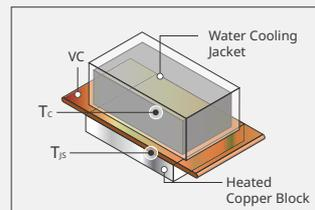
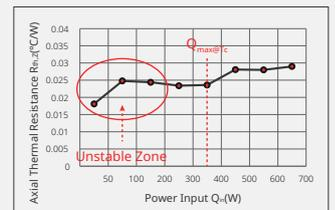

Figure 3. The schematic diagram of the water-cooling jacket VC and its heating copper block
Figure 4. Trend curve of axial thermal resistance $R_{th,Z}$ versus heating power Q_n by using the water-cooling jacket
The VC performance measurement method is based on the standard <TTMA-VC-2017> set by the Taiwan Thermal Management Association. The performance measurement of VC is to use the condensation water jacket to take away heat. The measured performance indicators of the VC at the set operating temperature T_C are the axial thermal resistance $R_{th,Z@Tc}$ of the VC, the radial thermal resistance $R_{th@Tc}$ of the VC, the junction temperature $T_{J5@Tc}$ of the heated copper block and the maximum heat transfer of VC $Q_{max@Tc}$. A high-power heated copper block is used to simulate IC chip heating. It is usually used to simulate and measure the usage of VC in computer CPUs, GPUs, and servers. As shown in Figure 3, the VC is heated from the bottom, and a water-cooling jacket is used on the upper of the VC to dissipate heat. The center temperature (operating temperature T_C) of the VC at cold plate and the temperature $T_{J5@Tc}$ of the contact between the surface of the heated copper block and the hot plate of the VC are used to calculate the axial thermal resistance $R_{th,Z@Tc}$. During measurement, record the changes in axial thermal resistance $R_{th,Z@Tc}$ of VC at the set operating temperature T_C under different heating powers (W). When the axial thermal resistance reaches the lowest value, the heating power is $Q_{max@Tc}$ at operating temperature T_C . As shown in Figure 4, when the heating power is 350W, the axial thermal resistance reaches the minimum value, and the $Q_{max@Tc}$ of this VC is 350W.